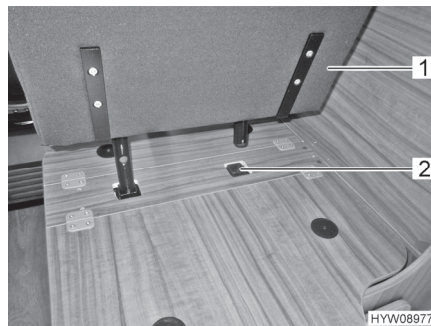

Fig. 23 Place the attachable seat in the holder
- Place the attachable seat (Fig. 23,1) in the holder (Fig. 23,2).